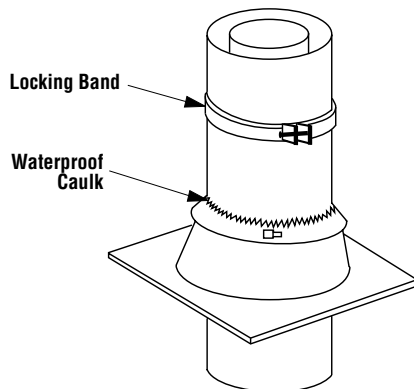

Figure 30
Step 8. The standard Security Chimneys™ FTF10 roof flashing assemblies include a storm collar. Slide the storm collar over outer chimney, rest on flashing spacers and align with top surface of flashing. Insert tab in slot, pull tight and bend tab back over slot. Seal storm collar to outer chimney with roof caulking or mastic around entire circumference of pipe. Also add extra roof caulking to the tab/slot area to seal completely against water penetration (**Figure 30**). Check all joints very carefully to ensure no water intrusion can take place.
Use the nut provided and TIGHTEN snugly. Do not overtighten as this might damage the chimney section (*refer to Figure 30*).